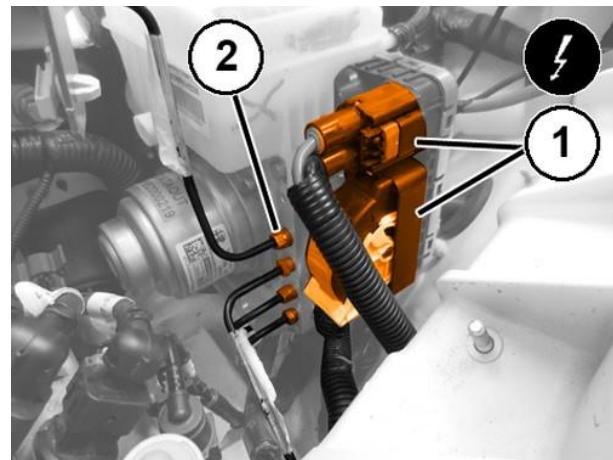

Figure 64 – ABS Module
57. Disconnect the electrical connections (1) of the ABS module (Figure 64).
58. Remove the connectors of the brake oil pipes (2) on ABS module side (Figure 64).